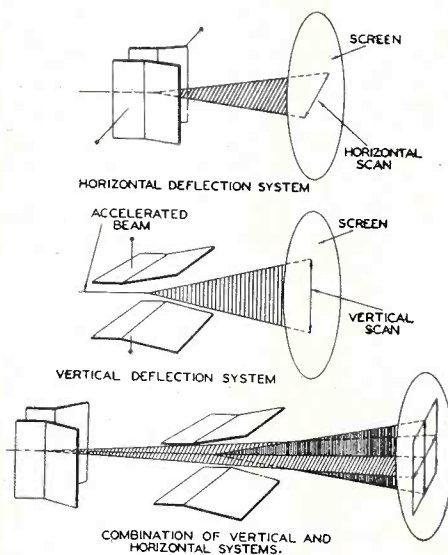
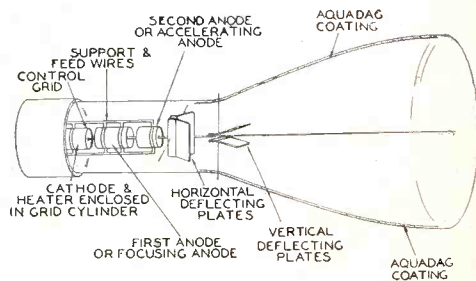

Fig. 1. Electrostatic beam deflection system.
Fig. 2. Electrostatic focus and deflection.
1. (p 8, 9) Note Fig. 1. In electrostatic beam deflection the spot is moved horizontally or vertically by use of deflection plates. Combined, they provide the complete picture scanning. These plates work by virtue of:
4. (p 9) Observe Fig. 1. Note that both horizontal and vertical deflection plates are bent to form a flare. This is a popular innovation. Perhaps examination of Fig. 2 showing both focus and deflection surfaces installed in the C-R tube will give you a hint: Why the flare on the deflection plates? (You'll just have to write this one out. There is no multiple choice on this one.)